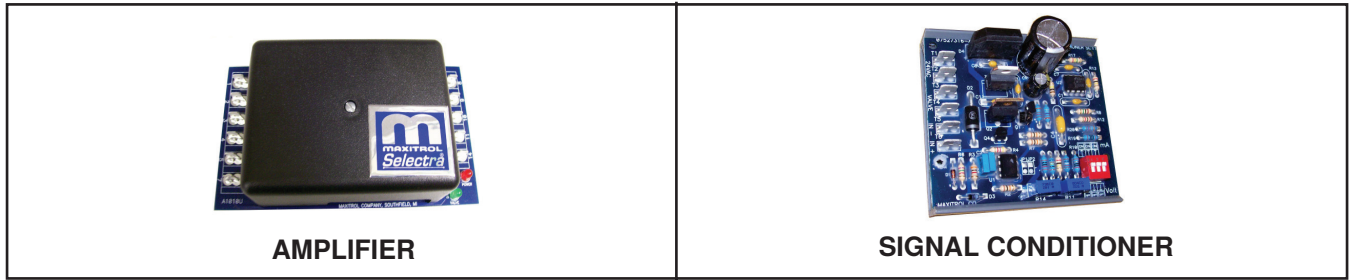

Figure 22. Maxitrol Amplifier and Signal Conditioner
- **Electronic modulation between 50% and 100% firing rate (option AG8):** Electronic modulation for makeup air application that is controlled by a duct sensor and temperature selector (55–90°F (12.8–32.2°C)). The temperature selector setting for option AG8 is on the amplifier (see Figure 22). Option AG8 is available with an override thermostat.
- **Electronic modulation between 50% and 100% firing rate (option AG21):** With option AG21, the furnace is equipped with a Maxitrol signal conditioner (see Figure 22) that operates much the same way as the amplifier above to control the regulator valve. The conditioner accepts an input signal of either 4–20 milliamps or 0–10 volts from a customer-supplied control device such as a computer. With the dip switches on the conditioner in the ON positions, the conditioner accepts a 4–20 milliamp signal. In the OFF positions, the conditioner accepts a 0–10V signal. The conditioner converts the signal to the 0–20 volt DC current required to control the modulating valve.